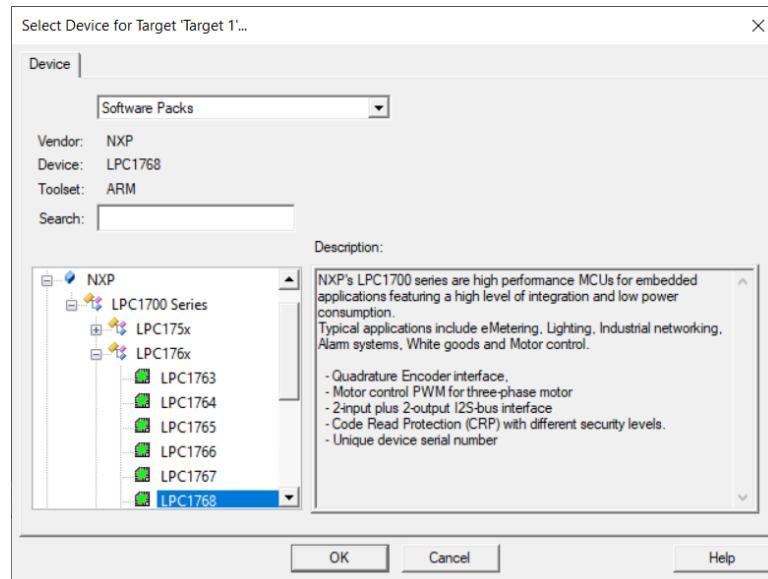

Figure 9.2: Keil IDE: Choose MCU
- Select NXP → LPC1700 Series → LPC176x → LPC1768 (See Figure 9.2).